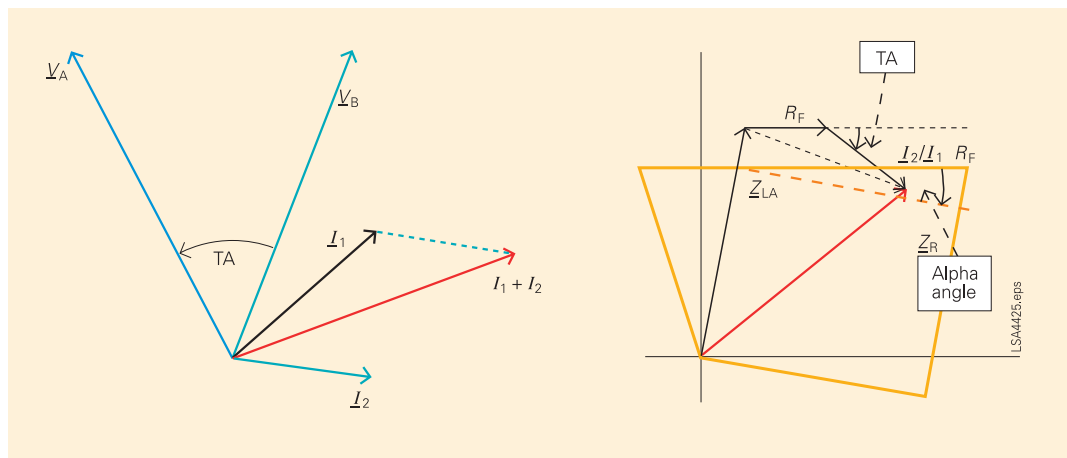

Fig. 30 Transmission angle for Alpha angle setting
The Zone 1 may under no circumstances operate for external faults as this would mean a loss of selectivity. The influence of remote infeed in conjunction with fault resistance must be considered in this regard. From the voltage and current phasors in Fig. 30 the influence of the transmission angle (TA), i.e. angle between the voltages  $V_A$  and  $V_B$ , on the measured fault resistance can be seen. In the impedance plane the phasor  $I_2/I_1 R_F$  is rotated downwards by the transmission angle. The risk of the external fault encroaching into Zone 1 is shown. To prevent this, the Zone 1 X setting characteristic is tilted downwards by the "Alpha angle". A detailed calculation of the "Alpha angle" is complicated and heavily dependant on changing system conditions. A worst practical case is therefore selected to fix the "Alpha angle" setting. For this purpose the largest transmission angle that can occur in the system during normal overload conditions must be applied to the following set of curves.